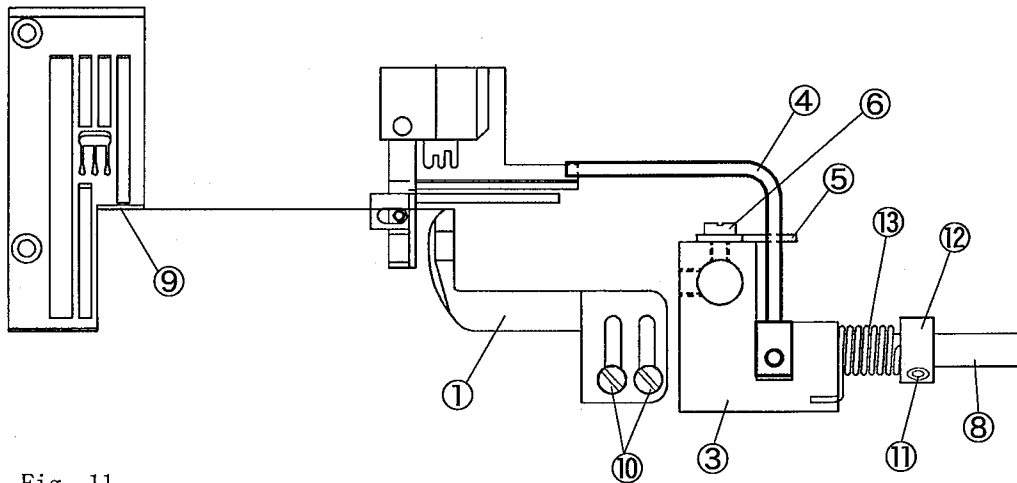

Fig. 11
1. Loosen the screw ② and adjust the height of fabric presser shaft bracket ③ to make the back of fabric presser to be parallel with the top surface of feeding dog and contact to it slightly when the feed dog is at its top dead point.
2. At the highest point of feed dog movement, load the elastic tape to be sewn under the presser foot and make the clearance of 0.5mm between the top surface of right side of presser foot and the fabric presser guide bar ④.
For adjustment, loosen the screw ⑥ on the guide bar stopper ⑤. (Fig. 11)
3. Unload the elastic tape to be sewn and make the clearance of 1.0mm between the back of fabric presser ① and the top surface of stitch plate.